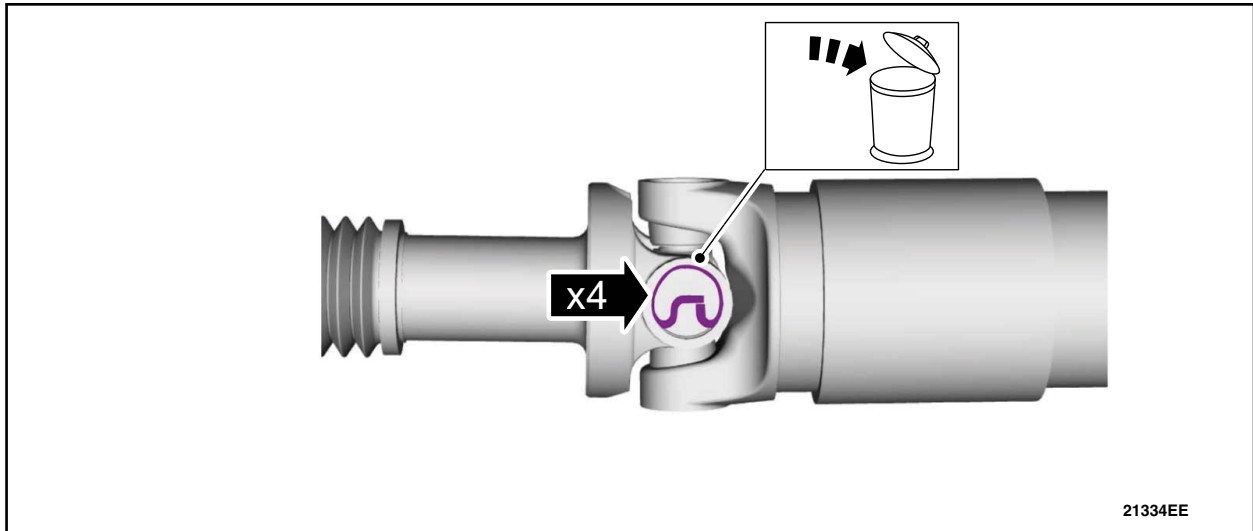

FIGURE 30
41. Remove and discard the 4 snap rings. See Figure 30.